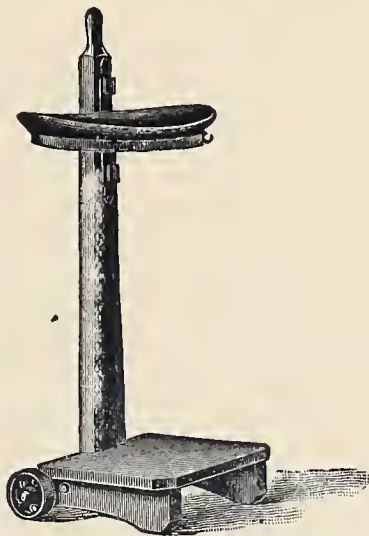

Fig. B 522. — Bag-Holder.
*The Bag-Holder*, illustrated at *Fig. B 522*, not only furnishes a tunnel, but it also affords a truck on which the filled bags can be wheeled away.